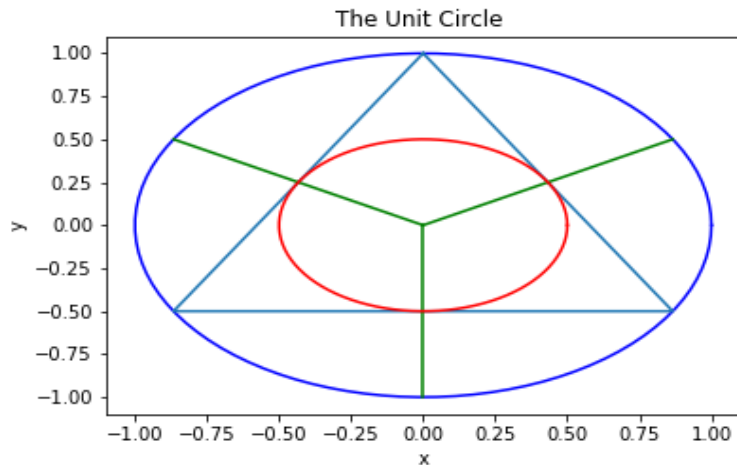

Figure: 5. Equilateral Triangle Inscribe in Unit Circle
- Consider a unit circle where an equilateral triangle is inscribed as shown in Figure 5.